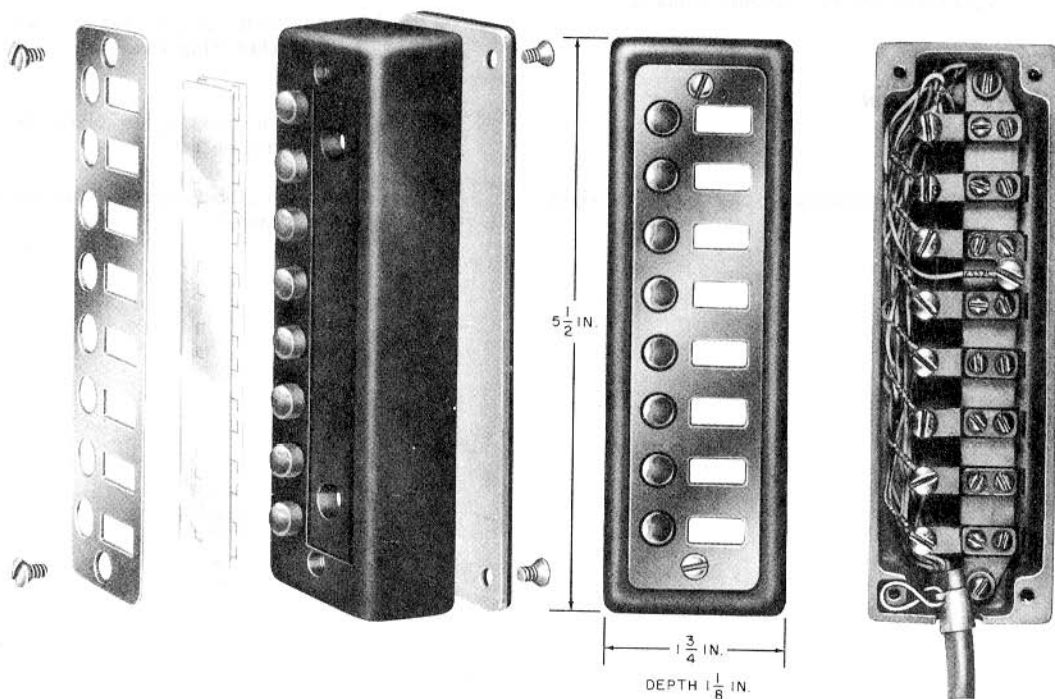
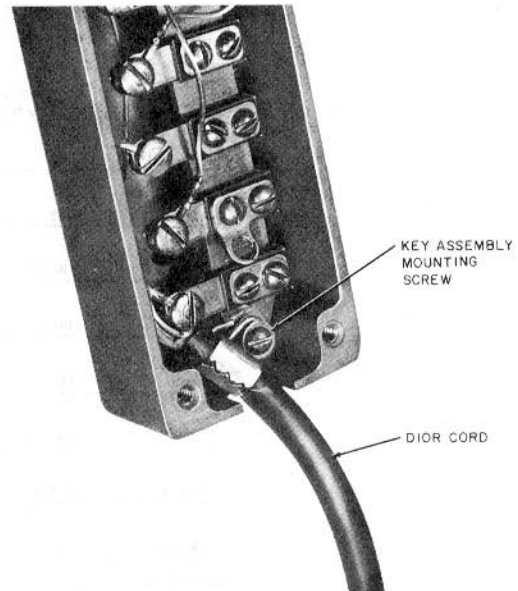

Fig. 2—549C (MD) or 549D (MD) Key (8 Pushbuttons)
Fig. 7—Fastening D10R-87 Cord in 549C (MD) Keys
- Replace D9G (MD) cord with a D10R-87 cord or install a D10R-87 cord in 549D1 key (8-button key)
- Fasten cord in "S" hook depression (Fig. 2) or under key assembly mounting screw (Fig. 7).